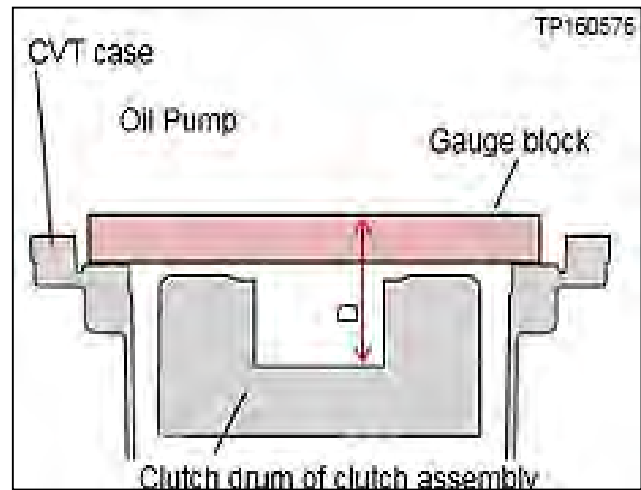

Figure 108
89. Calculate the average (D) clutch assembly bore depth (Figure 108) as follows: